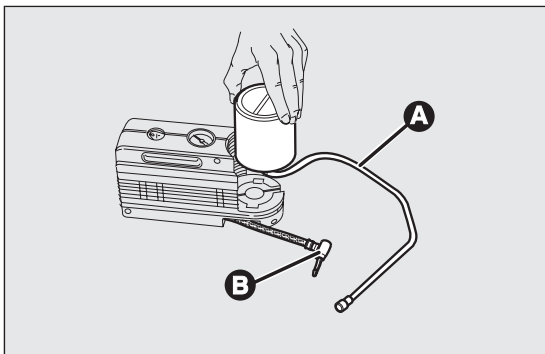

fig. 156
- disconnect coupling B fig. 156;